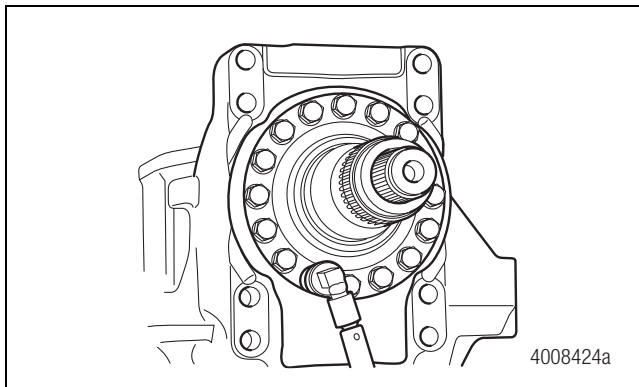

Figure 8.9
13. Install the spindle over the stud and into mounting position on the knuckle. Install the spindle mounting bolts and tighten to the torque specified in Section 11. Figure 8.9.